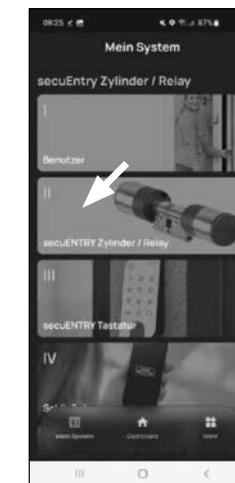

Fig. 1
- ① Tap on the second menu item "II - secuENTRY Cylinder/Relay" (Fig. 1).